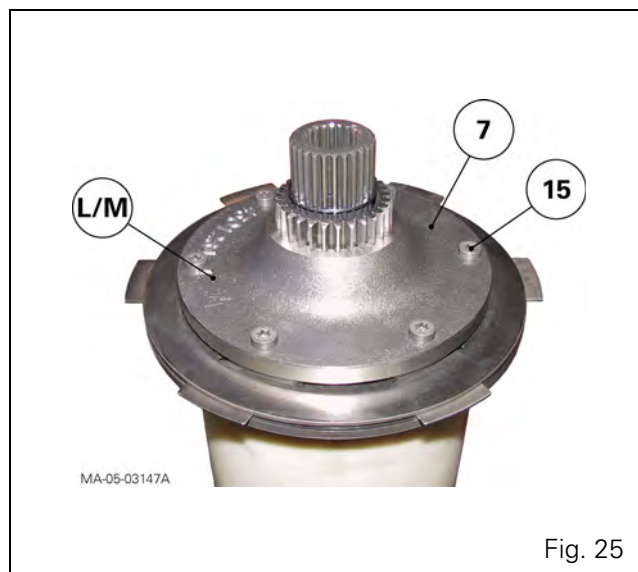

Fig. 25
44. Place the clutch M/brake L assembly on a supporting fixture. Take out the screws (15) to remove the clutch cover (7) (Fig. 25).